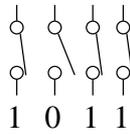

Figure 5: Simple mechanical memory
6. In figure 5, if 1 means ON and 0 means OFF, the key array on the wall will represent the binary number say : 1 0 1 1